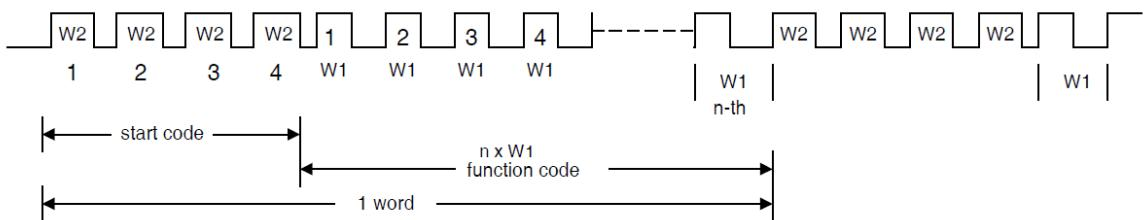
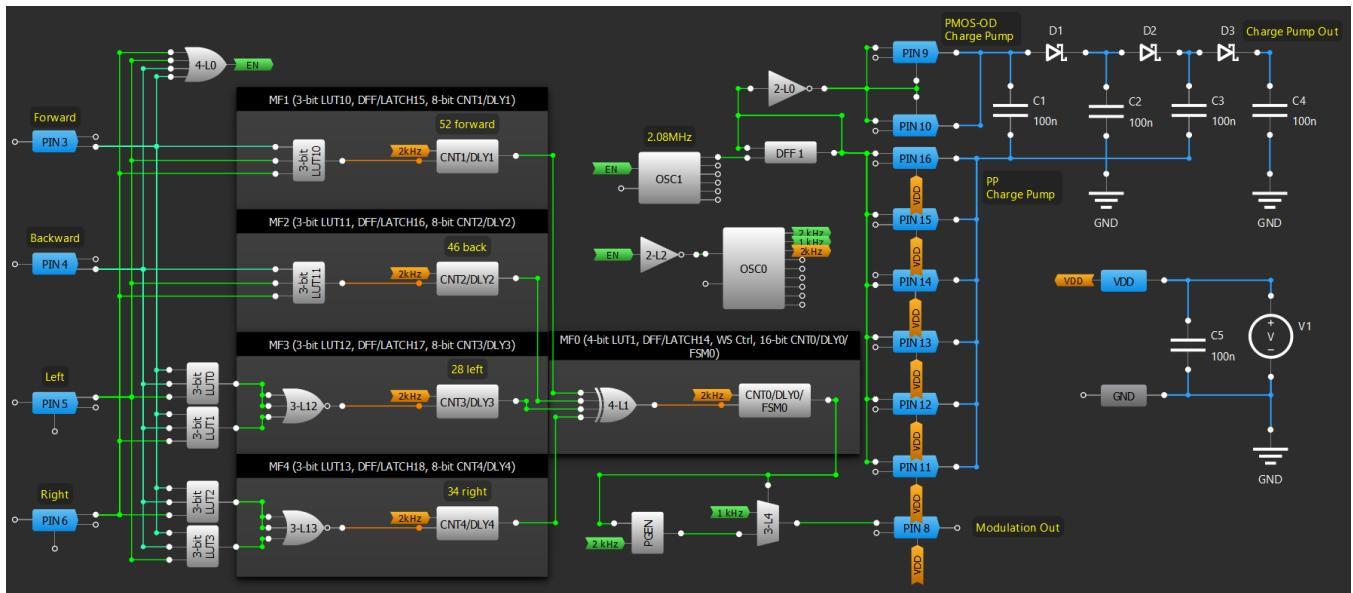
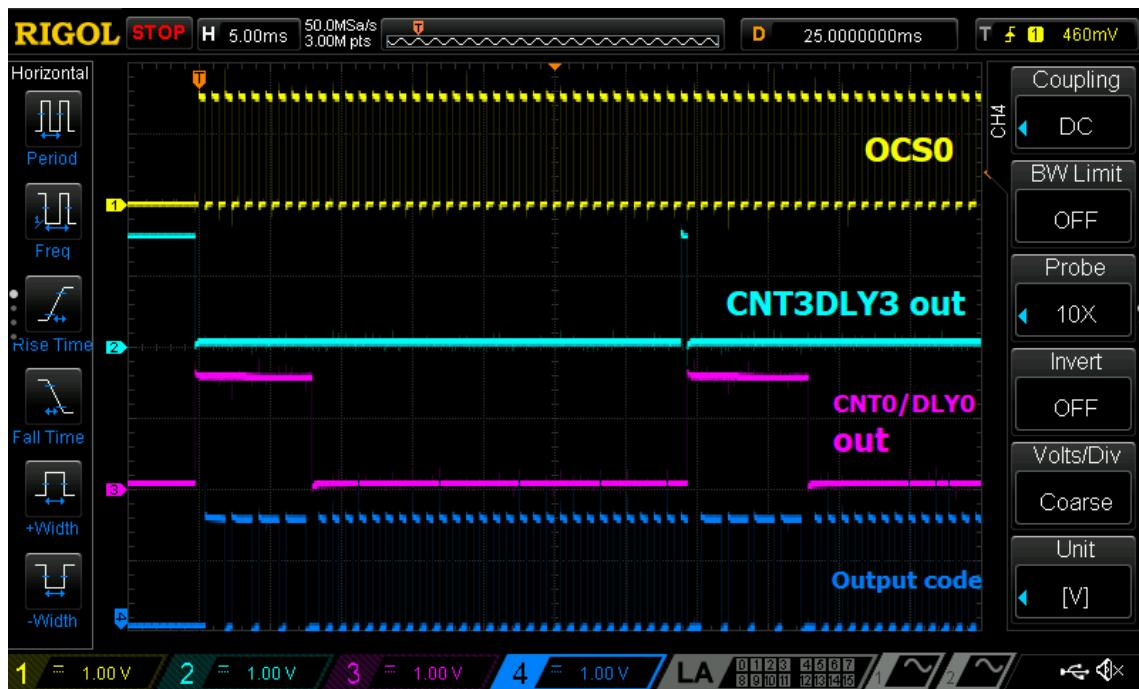

Figure 3: TX Code Format
Figure 6: Encoder Using SLG47513. Go Configure Project
Figure 7: Oscilloscope Screenshot. Function Button «Left», Code 28
The SLG47513 IC turned out to be perfect for creating an encoder for RF-controlled devices. It contains all necessary macrocells to create the design using a minimum of external components. See Figure 6 for the Go Configure screenshot of the project. The circuit does not require a power switch due to extremely low power consumption when idle, less than 1 μ A. Until any of the buttons are pressed, all oscillators and other macrocells remain in static mode and thus do not consume any current. To start the operation user should press the button of the desired function. The 4-bit LUT0 (OR) detects any button pressed and enables OSC0 (through an inverter) and OSC1. All of the MF macrocells along with the OSC0, PGEN, and 3-bit LUT4 (multiplexer) are used to form pulse sequences resembling one of four function codes for each function. MF0 and PGEN form the start code W2 and MFs 1 to 4 form function codes W1. The MUX switches between W2 and W1 making the code sequence, see Figure 3 and Figure 7 for the time diagrams.
Also, the design includes a charge pump for powering the transmitter module. It is built using OSC1 (25 MHz / 12), DFF1, and an inverter (2-bit LUT0). Pins 9 and 10 are configured as a 2x drive, 3-state output. When the OE input is High the pin acts as a 2x push-pull, and when OE is Low the pin goes into High-Z (3-rd) state. Since IN and OE are connected together, the pin will act as P-MOS open drain output. This configuration allows eliminating one Schottky diode typically used to charge the first capacitor of the charge pump (C1 in this case, see Figure 6). Pin 9 and Pin10 are connected for higher current output. Pins 11 to 16 are also connected together for handling high loads. This charge pump allows doubling (taking into account the diode's voltage drop) the power supply voltage to meet the minimum power requirements of the RF module.